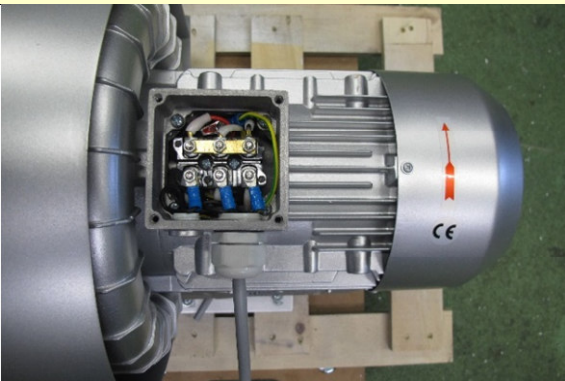
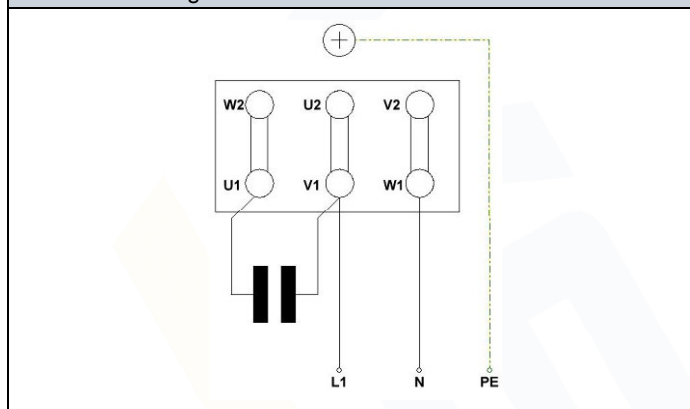

Fig. 5
Fig. 6
- After correct connection, the direction of rotation must be checked. To do this, briefly start the side channel blower and compare the direction of rotation of the fan wheel with the stick-on arrow. If the direction of rotation is the wrong way round, the connection of U1 and W1 must be reversed. (see Fig. 5 and Fig. 6)